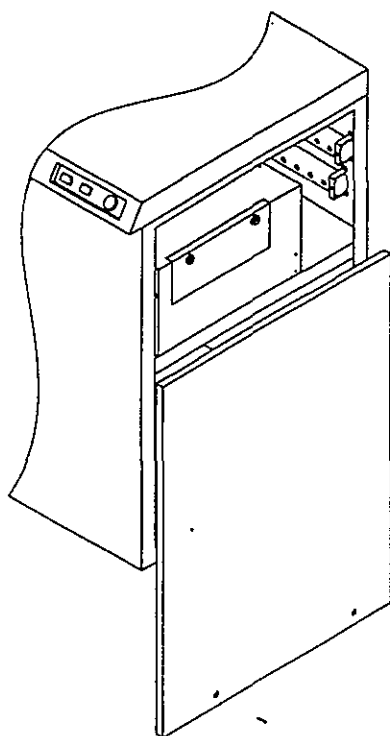

Figure 9.10 Removing the side plate of the CM500
- (1) Remove the two screws located on the bottom of the right-hand side plate (viewed from the CM500). Slide the side plate backward about 10 cm and remove so as to expose the oven door of the Pi500. See Fig. 9.10.